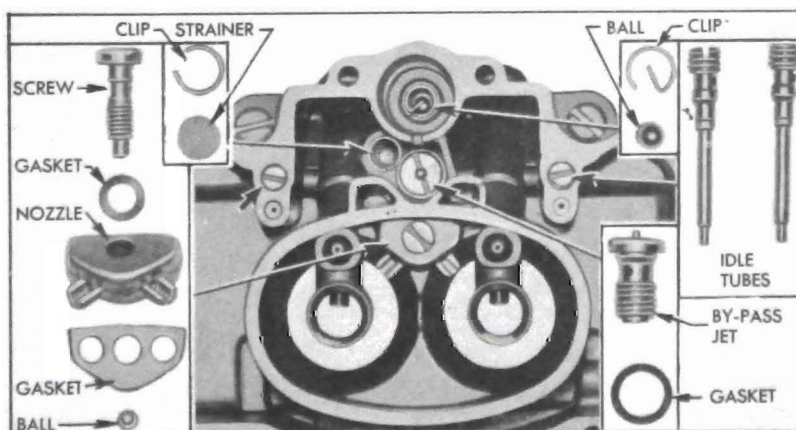
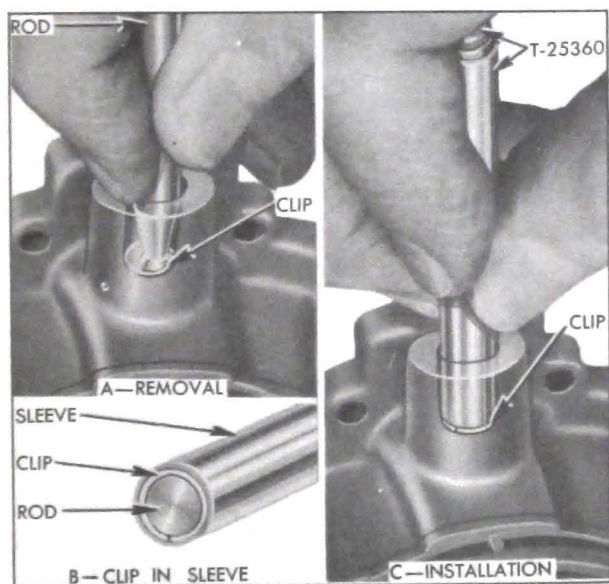

Figure 3-68—Parts in Main Body
Figure 3-72—Removing and Installing Retainer Clip
8. Remove power by-pass jet and gasket, and both idle tubes from main body. See figure 3-68. Handle idle tubes carefully to avoid damaging small end which contains metering orifice.
9. Remove pump discharge nozzle screw, nozzle and gaskets. Place hand on top of main body and invert body to catch the check valve ball located in discharge channel. See figure 3-68.
10. Remove pump check valve ball retainer clip, using long nosed pliers, then remove check valve ball. See figure 3-68.
Replace inlet strainer if it is damaged or clogged so that it cannot be thoroughly cleaned, using Retainer Clip Replacer T-25360. Use small end of rod of tool to remove retainer clip. To install clip, place it in tapered end of tool sleeve then use rod inside sleeve to push clip into place. See figure 3-72.
Replace pump strainer if it is damaged or clogged so that it cannot be thoroughly cleaned. Use Retainer Clip Replacer T-25360 as previously explained but use shouldered end of sleeve for installing retainer clip. See figure 3-72.
11. Place check valve ball in bottom of pump cylinder and install retainer clip, using Replacer T-25360 (fig. 3-72) or long nosed pliers. Inner end of clip must point down towards ball. See figure 3-68.
12. Install pump discharge channel check ball, then install *new* nozzle gasket, discharge nozzle, and nozzle screw with *new* gasket. See figure 3-68.